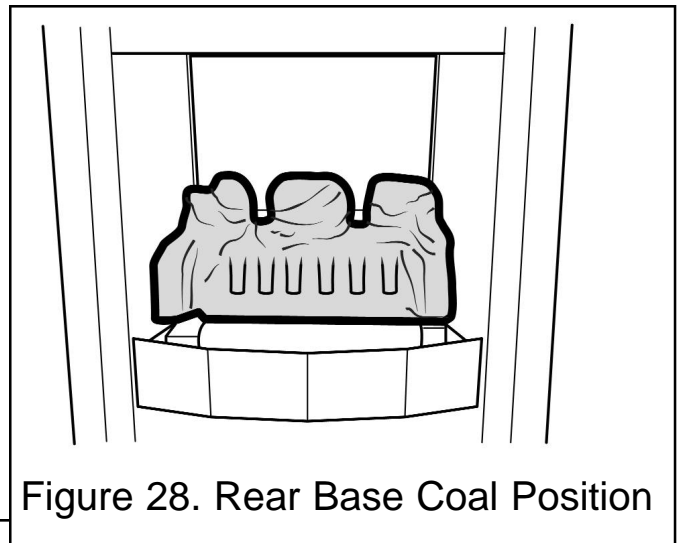

Figure 28. Rear Base Coal Position
1. Place the rear base coal in the firebox. It should rest on the ledges at the rear sides of the burner unit. When located gently move the rear base coal so that it is as far forward as possible. The amount of movement will be negligible (See figure 28).